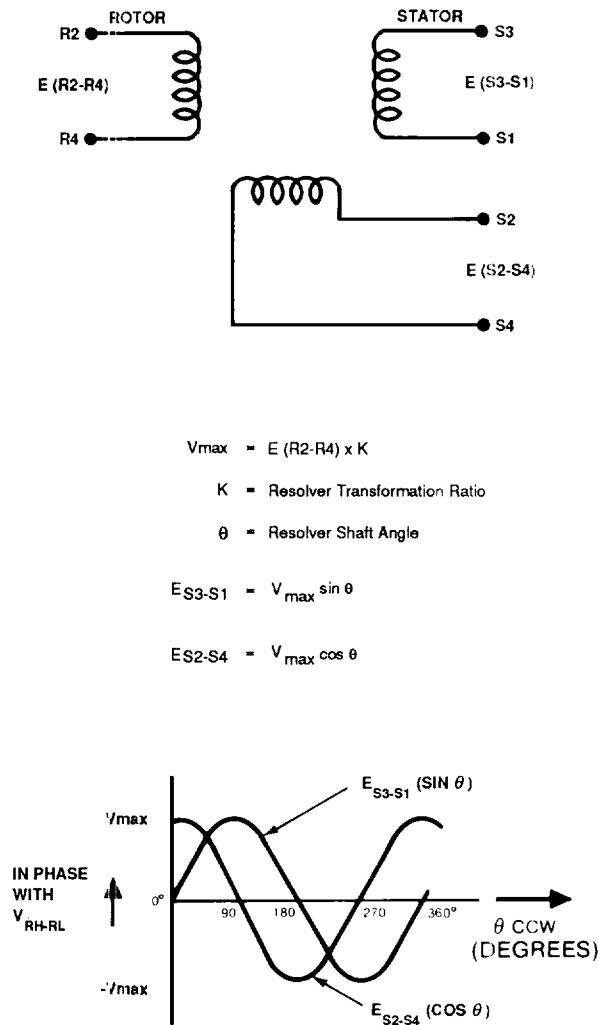
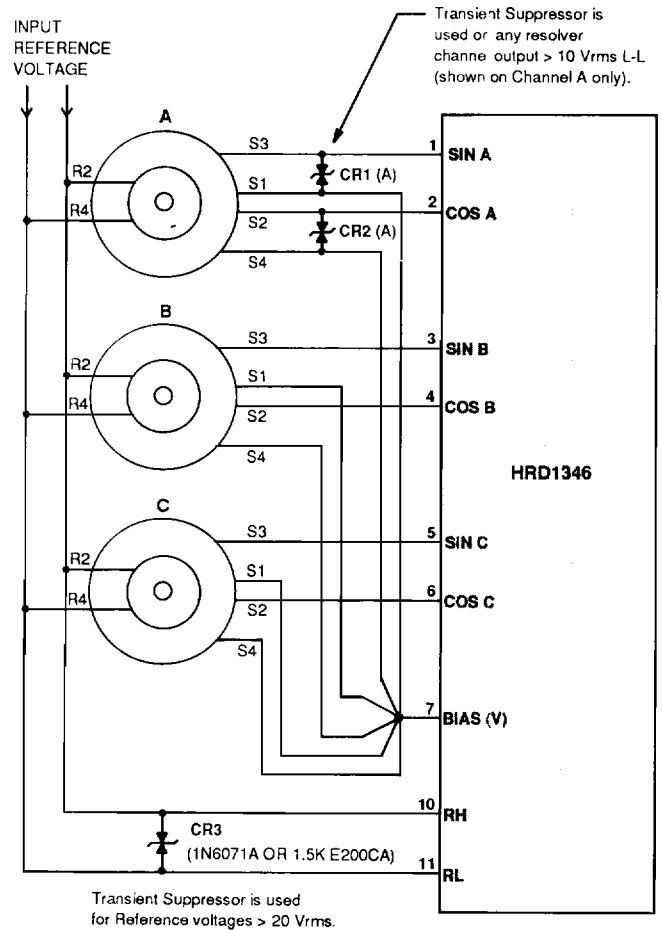

FIGURE 2 Resolver Conventions
FIGURE 3 Resolver Connections
Connections of resolver(s) to the **HRD1346** are shown in Figure 3. Standard resolver "conventions" as applicable are shown in Figure 2. Resolvers normally contain a "rotor" winding (reference input) and two "signal" windings (sin and cos outputs). The sin(S3-S1) and cos(S2-S4) resolver outputs are signals which are proportional to the "product" of the "sin", "cos" (respectively) of the shaft angle θ and the reference voltage (R2,R4 or RH, RL), multiplied by the resolver transformation ratio (K). The reference input to the resolver (carrier signal) is essentially modulated by the shaft angle, producing "modulated" sin and cos outputs. The waveforms in Figure 2 represent the "demodulated" sin and cos outputs of the resolver, which essentially shows the amplitude relationship (in phase or out of phase) of the sin and cos outputs with respect to the reference input.
Resolvers are typically connected as shown in Figure 3. The "bias" (V) connection at Pin 7 serves as the "signal low" or "return" for the sin and cos resolver signals. Bias (V) is
an internally generated "analog gnd" with a nominal output voltage of 2.15 V-dc. For optimum accuracy, it is best to tie the signal returns separately to common point close to Pin 7 of the **HRD1346**. The sin and cos pins are balanced resistive inputs, with the exception of the "direct" 0.5 V-rms input option, which is a voltage follower buffer input. The reference pins (RH,RL) are true differential resistive inputs, therefore either RH or RL inputs can be tied to power supply ground or left floating, depending on the source of the reference. When the nominal operating A.C. voltage levels on the signal and/or reference inputs to the **HRD1346** exceed 10 V-rms, it is recommended that transient voltage suppressors be installed. Resolvers are highly inductive and can generate or couple transients many times greater than their normal signal voltages and can easily exceed the absolute maximum ratings. Suggested transient suppressors as shown in Figure 3 (or equivalent) should be used if high voltage transients are expected.